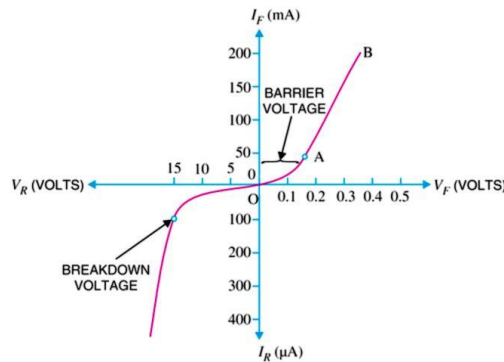

Fig.9  $I$ - $V$  characteristics of a pn junction diode.
**(i) Zero external voltage.** When the external voltage is zero, i.e., the circuit is open at K, the potential barrier at the junction does not permit current flow. Therefore, the circuit current is zero as indicated by point O in Fig. 9.
Thus, a rising curve OB is obtained with forward bias as shown in Fig. 9. From the forward characteristic, it is seen that at first (*region OA*), the current increases very slowly and the curve is non-linear. It is because the externally applied voltage is used up in overcoming the potential barrier. However, once the external voltage exceeds the potential barrier voltage, the pn junction behaves like an ordinary conductor. Therefore, the current rises very sharply with an increase in external voltage (*region AB on the curve*).